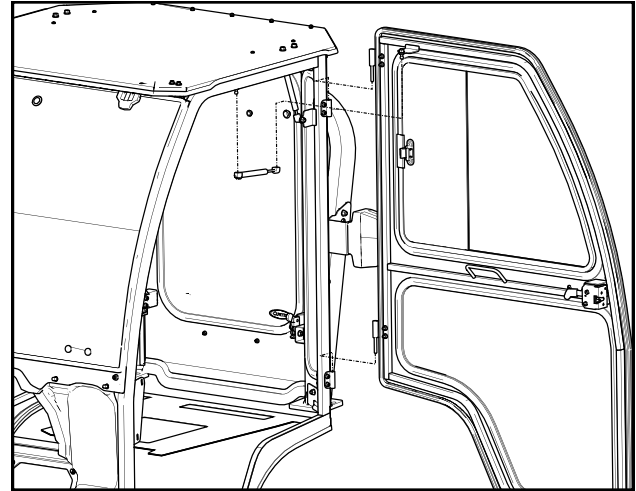

Fig. 19.1 (Door Installation)
19.1 Grease the hinge pins and re-install the doors into their respective hinge sleeves located on the side frames. See Fig. 19.1